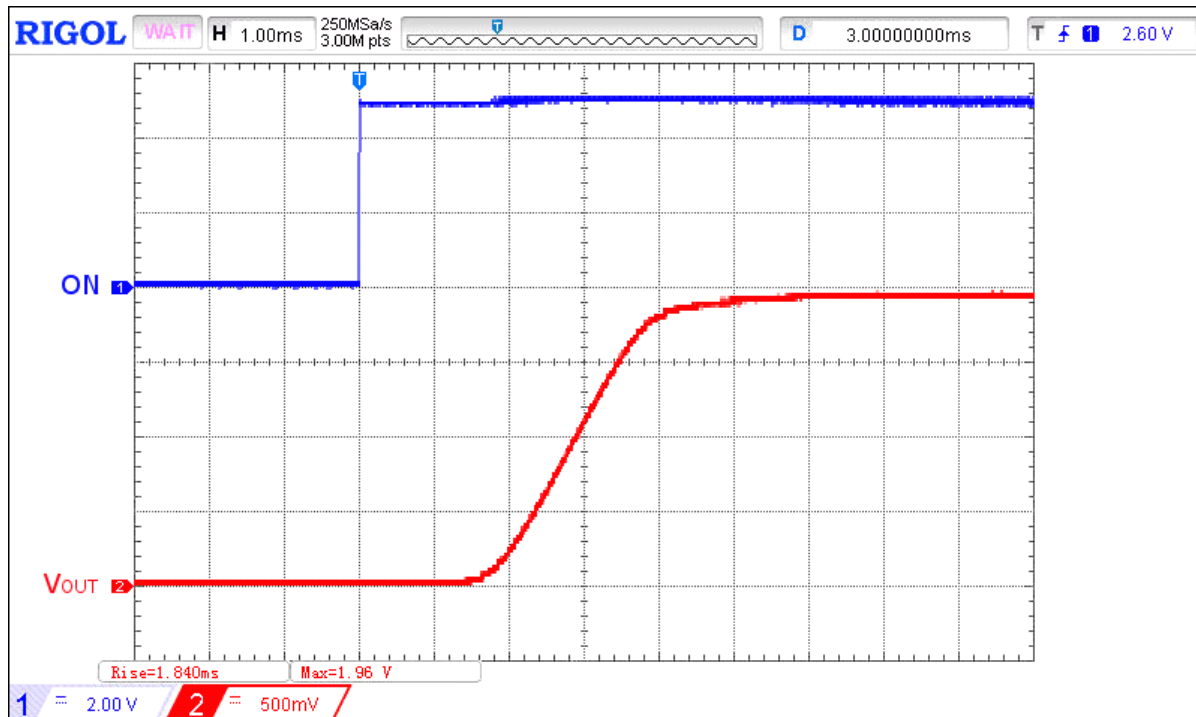

Figure 11. Linear and monotonic turn ON operation waveform for  $V_{IN} = 2\text{ V}$ ,  $C_{LOAD} = 0.1\ \mu\text{F}$ ,  $R_{LOAD} = 2\ \Omega$
- VIN ≥ 2 V, linear and monotonic power on ramp. (Figure 11)